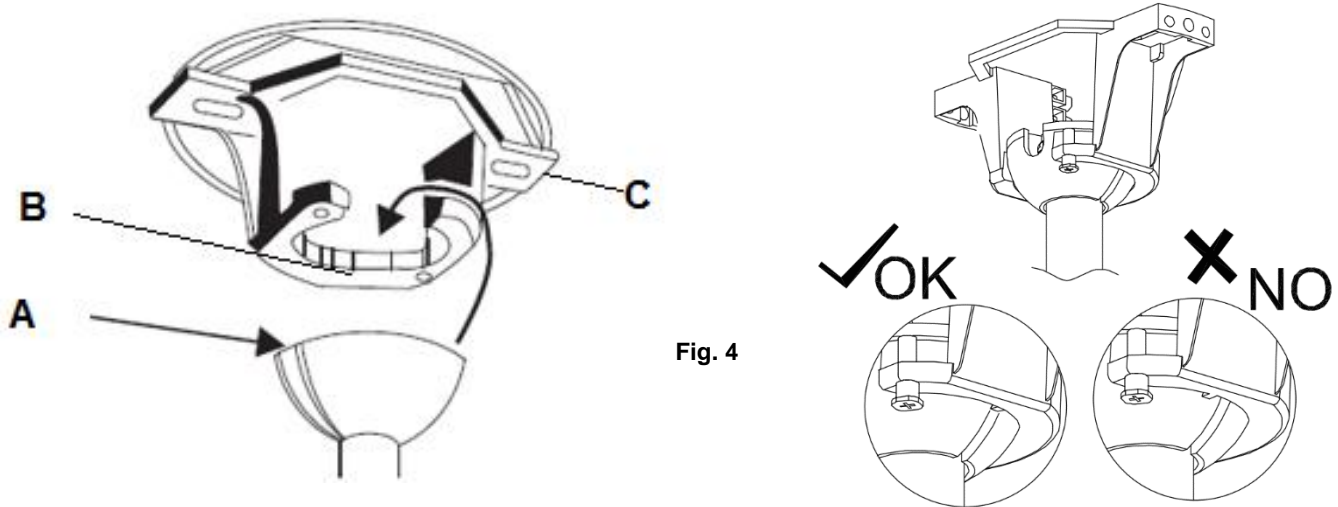

Fig. 4
Lift the fan assembly onto the mounting bracket. Ensure the key slot (A) of the hanger ball is positioned on the key pin (B) of the mounting bracket (C) to prevent the fan from rotating when in operation. (Fig.4)
1. Remove the lower motor housing from the fan body by turning the lower motor housing counter clockwise to access the blade mounts and blade screws. (Fig.4)